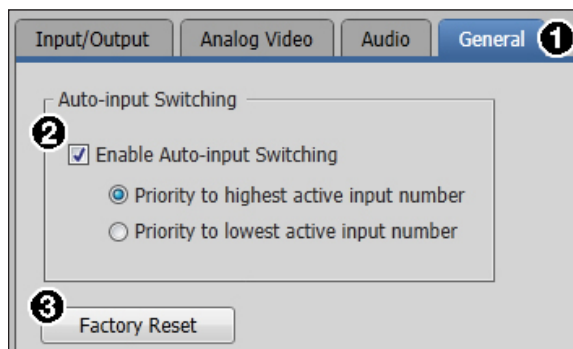

Figure 34. General Tab
Click the **General** tab (see figure 34, ①) to open the **General** screen. It contains settings for auto switch mode and factory reset.